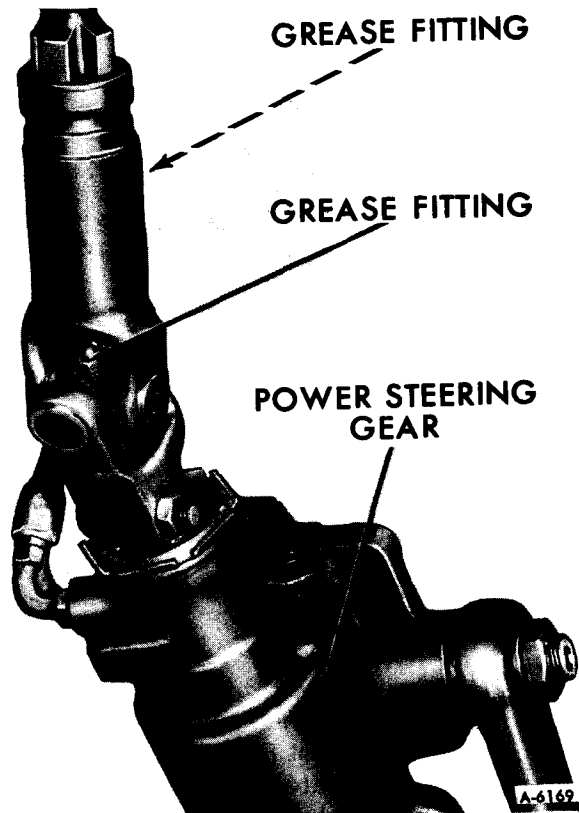

Figure 7—Lower Steering Shaft Grease Fittings
4. Lubricate universal joint at grease fitting (figure 7), using a Lithium-soap base